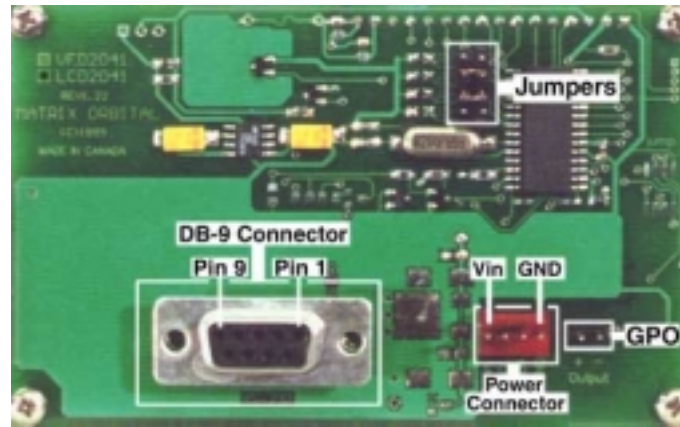

Figure 2-1 Electrical Connections
1. Refer to the diagram above and Figure 2-1 for the following steps.
Power is applied via pins 1 and 4 as shown in Figure 2-1. Power requirement for standard units is +5 VDC $\pm 0.25V$ (units with the wide voltage range option require 8 – 15 VDC). Power may also be supplied via the RS-232 connector as described in section 2.2.2.